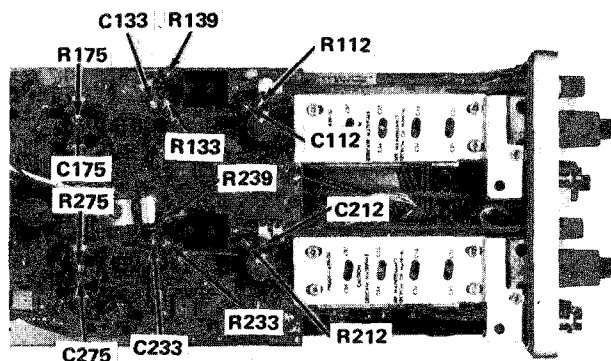

Fig. 5-17. Location of high-frequency compensation adjustments.
e. ADJUST—R139 and R475 (see Fig. 5-17 & 5-18) for the best flat-top waveform.
m. ADJUST —R239, R475, C471, and C477 (see Fig. 5-17 & 5-18), for the best flat-top waveform.
p. Connect the output of the Fast-Rise High-Amplitude Pulse Generator (Type 109) to the CH 1 input via a 50 Ω 5 ns GR cable, (2) X10 GR attenuators, X5 GR attenuator, a 50 Ω GR termination, and a GR-to-BNC adapter.
t. ADJUST—C175, R175, C133, R133, C112, and R112 (see Fig. 5-17), with a low-capacitance screwdriver, for the best flat-top waveform.
y. ADJUST—C275, R275, C233, R233, C212, and R212 (see Fig. 5-17), with a low-capacitance screwdriver, for the best flat-top waveform.